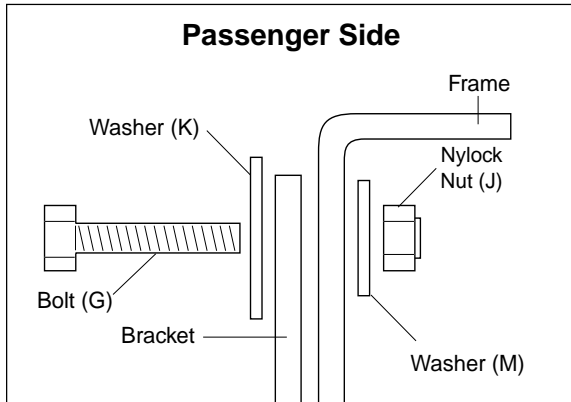

Figure 7
Upper Bracket installation on Passenger Side differs. Refer to Figure 7 for details.
NOTE: The Passenger Side will use bolt (G), large washer (K) on the outside of the frame, washer (M) on the inside of the frame, and nut (J) to attach the upper bracket to the existing hole on the side of the frame (Figure 7).